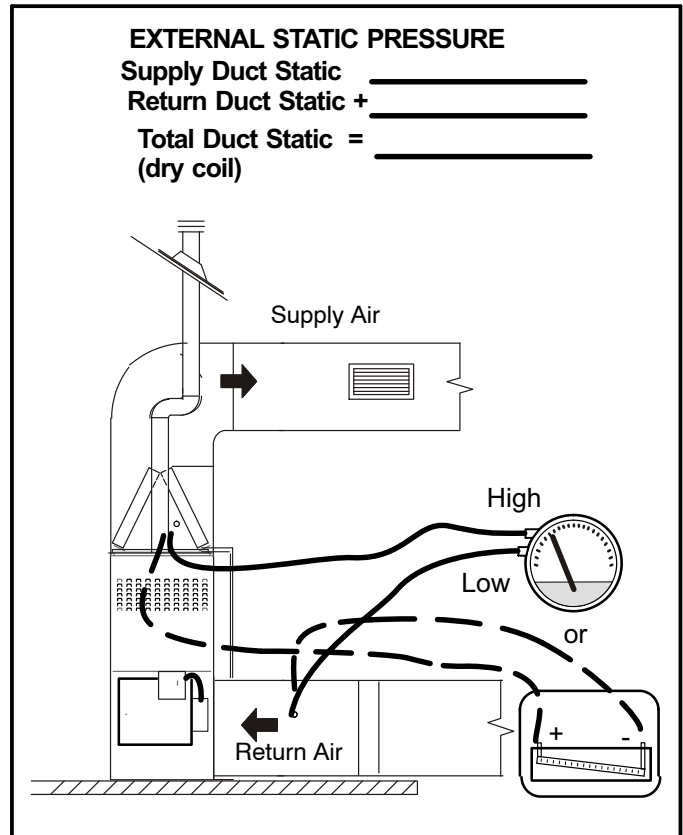

FIGURE 22
- 1 - Tap locations shown in figure 22 .